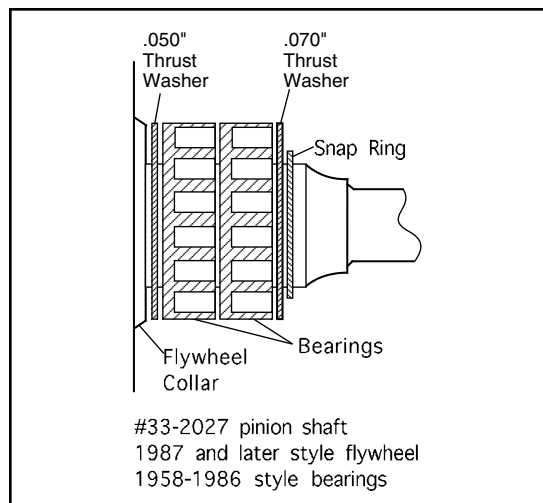

Figure 3
3. 1987 to 1989 big twin flywheels or S&S SL or BL flywheels for 1981 and later, and S&S pinion shaft 33-2027—one .070" thrust washer and one .050" thrust washer are normally used. Typical washer and bearing arrangement— .050" washer against flywheel, bearings, .070" washer, and snap ring. See **Figure 3**.